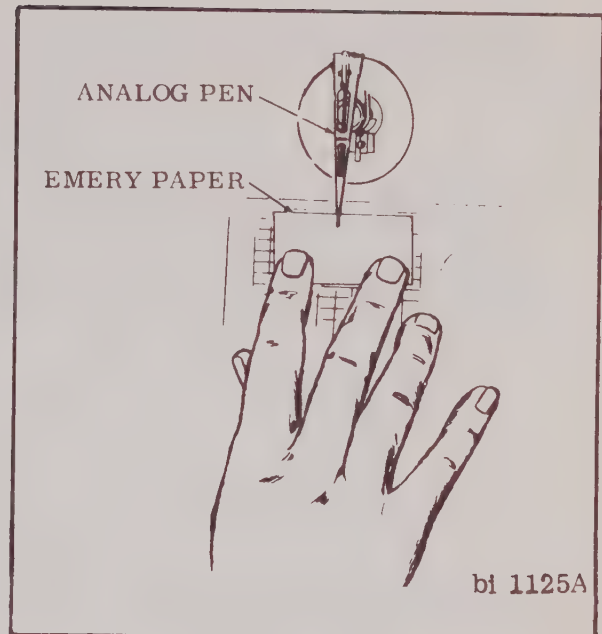

FIGURE 6-8. PEN LAPPING
4. Refer to Figure 6-8. Hold emery paper flat against writing table and move it in a circular motion several times while gently pressing pen tip with finger.